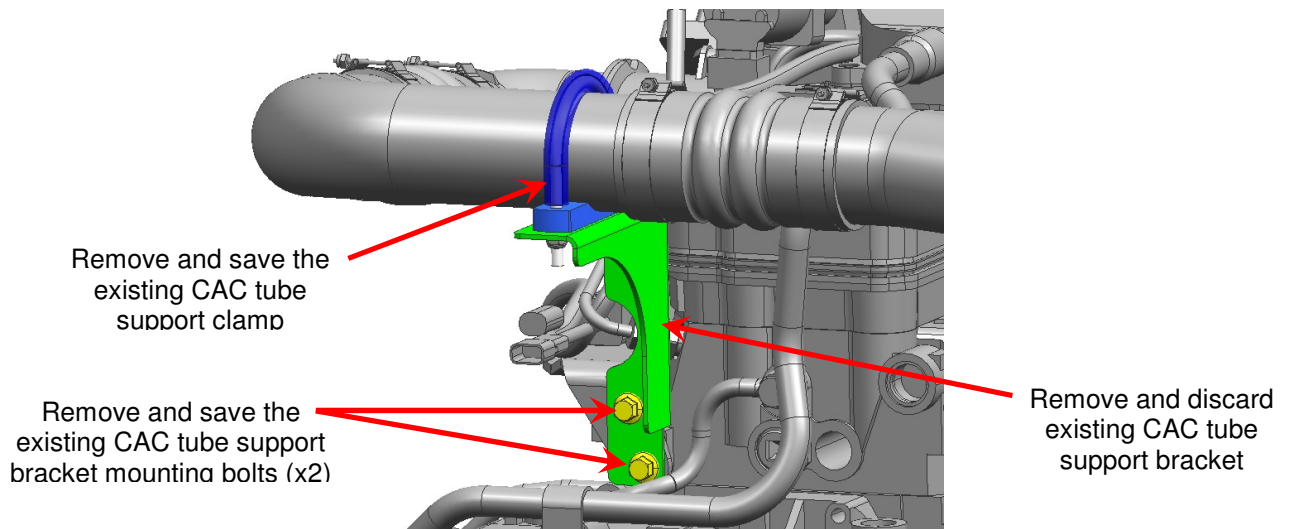

Figure 1: CAC Tube Support Tube Bracket and U-clamp
3. Working from the interior engine access door locate, remove and save the existing CAC tube support clamp, see Figure 1.
4. Remove and save the existing CAC tube support bracket mounting bolts (x2), discard existing CAC tube support bracket. See Figure 1.